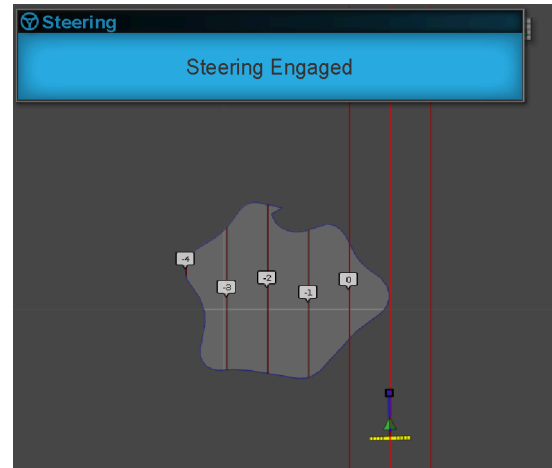

Figure 35
- **STEERING ENGAGED**—a visual alarm displays when the steering assist function engages (Figure 35).